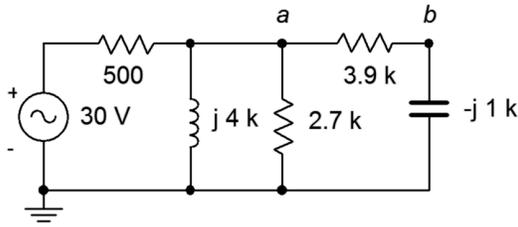

Figure 5.23
47. Use Thévenin's Theorem to find  $v_b$  in the circuit of Figure 5.23.
48. Determine the Thévenin equivalent that drives the  $3.9 \text{ k}\Omega + j1 \text{ k}\Omega$  combo in the circuit of Figure 5.23. Does this combo's impedance achieve maximum load power? If not, what combo will achieve maximum power and what is the resulting power?
49. Determine the Norton equivalent that drives the  $500 \text{ }\Omega$  resistor in the circuit of Figure 5.23. Determine the value of component(s) that when placed in series with the  $500 \text{ }\Omega$  resistor will achieve maximum load power (i.e., for the combo as the load).
75. Using Thévenin's Theorem with the circuit of Figure 5.23, determine a new value of capacitive reactance such that it cancels the Thévenin reactance.